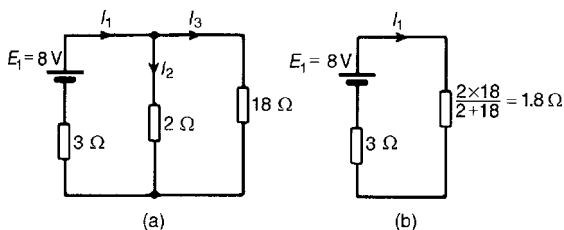
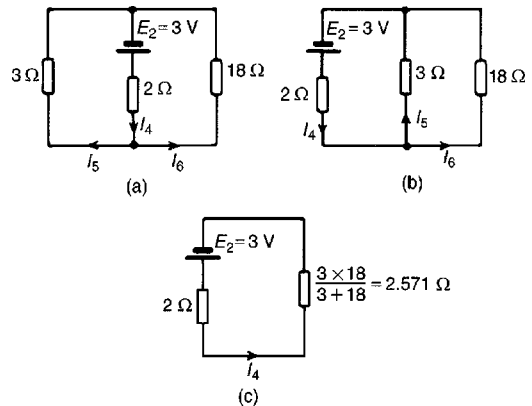
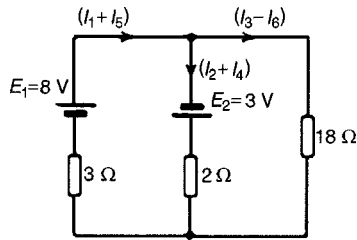

Figure 13.22
Figure 13.23
Figure 13.24
1. Removing source E_2 gives the circuit of Fig. 13.22(a)
2. The current directions are labelled as shown in Fig. 13.22(a), I_1 flowing from the positive terminal of E_1
From Fig 13.22(b),
From Fig 13.22(a),
3. Removing source E_1 gives the circuit of Fig. 13.23(a) (which is the same as Fig. 13.23(b))
4. The current directions are labelled as shown in Figures 13.23(a) and 13.23(b), I_4 flowing from the positive terminal of E_2
From Fig. 13.23(c),
From Fig. 13.23(b),
5. Superimposing Fig. 13.23(a) on to Fig. 13.22(a) gives the circuit in Fig. 13.24